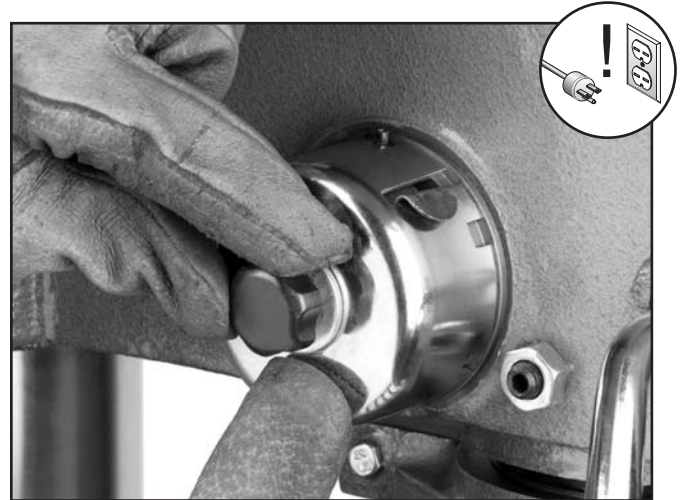

Figure 55. Loosening cover and star knob.
4. While firmly holding the spring lock cover against the head so the cover stays engaged with the lock pin, loosen the star knob approximately three full turns (see **Figure 55**).